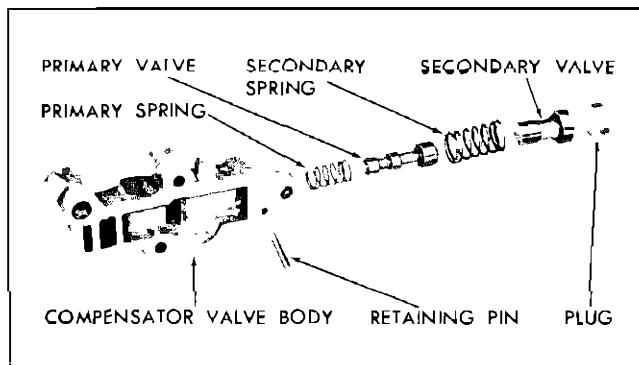

Fig. 101 Compensator Valve—Exploded
1. Compress compensator plug and remove retaining pin (Fig. 101).